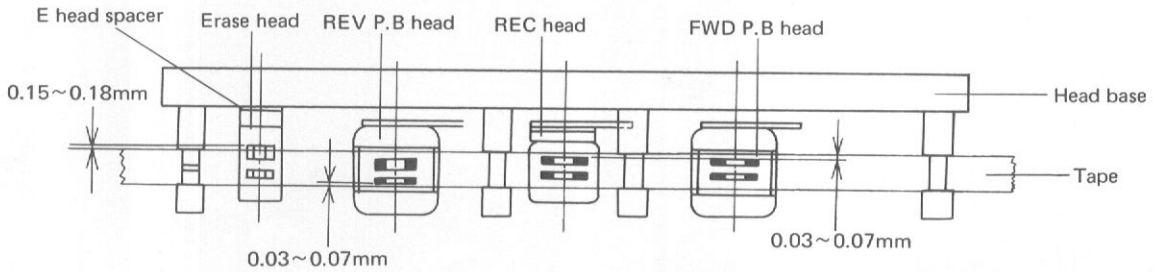
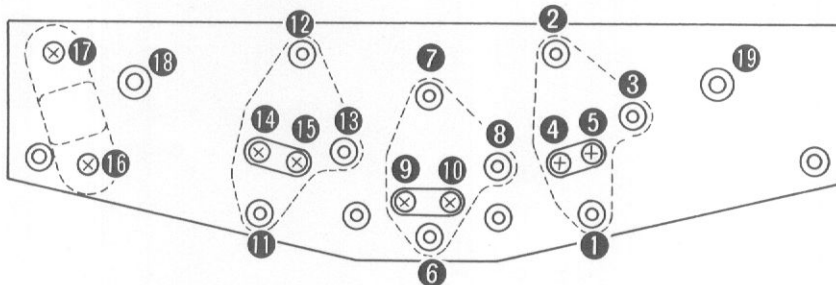

Fig. 8-1 Dimensions for the height of heads
Fig. 8-2 Adjustment points
Adjust the following screws (see Fig. 8-2) to attain the dimensions as shown in Fig. 8-1 for each head during tape transport.
If the Fig. 8-1 dimensions for the height of the erase head cannot be obtained, remove screws ⑯ and ⑰ and also the head base, loosen screws ⑯ and ⑰, and replace the E head spacer.
Adjust the following screws shown in Fig. 8-2 so that both the top and bottom of the head surface make uniform contact with the tape during tape transport.
Adjust the following screws shown in Fig. 8-2 so that the head gap is at an exact right angle to the direction of the tape.
2. Adjust screw ③ (⑬) shown in Fig. 8-2 until the AC millivoltmeter gives a maximum reading. As long as there is no big difference in output between left and right channels, this may be disregarded.
3. Check that there is no change in output when the tape is pressed in slightly by hand (near the head gap) during tape transport. If the output does vary, loosen screws ④ and ⑤ (⑭ and ⑮) shown in Fig. 8-2, and move the head around in a horizontal plane (i.e. in either left or right directions) to find the most suitable position.
2. Record this 2kHz signal onto the STD-502 test tape, and play the recorded portion back. Adjust screws ⑥, ⑦ and ⑧ as shown in Fig. 8-2 so as to obtain maximum output level in both left and right channels.
3. Next apply a 15kHz signal and record it onto the same test tape. During playback, fine adjust screw ⑧ to again obtain maximum output level in both channels.
4. Then gently press against the tape (by finger) during transport at a spot near the head gap, and check for any change in output level. If the level does vary, loosen screws ⑨ and ⑩ as shown in Fig. 8-2, and move the head around in a horizontal plane (either to left or right) to find the optimum position.